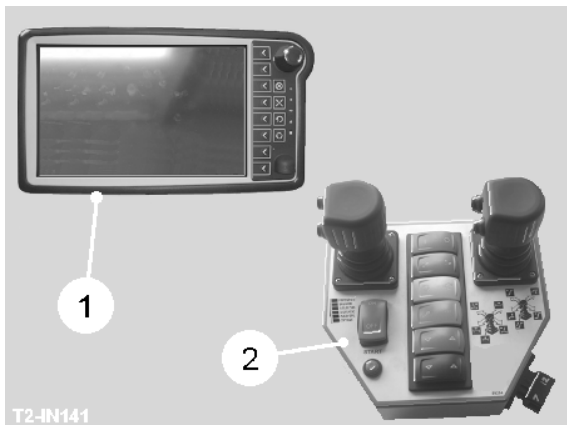
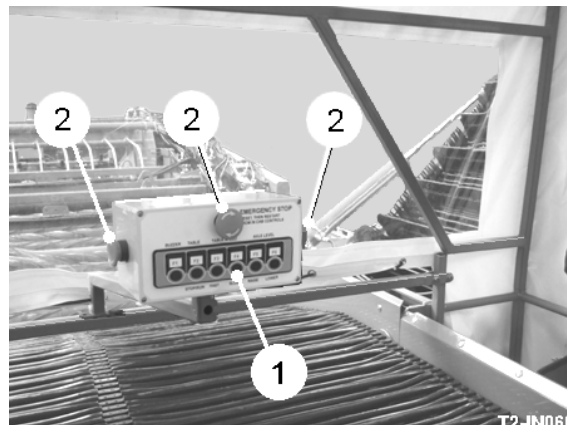

Fig 33
Fig 34
Control of all the operating functions of the T2 are through the Can-bus control system. The in-cab controls are covered by the touch-screen service terminal (Item 1, fig 33) and the slave box (Item 2, fig 33). The slave box covers all the basic switched functions used in normal operation and these are also repeated on the service terminal. The primary function of the touch screen service terminal is to allow easy access to all the variable functions such as speeds etc., and to allow all the operating functions to be monitored on the screen. Setting and monitoring can be carried out by following the instructions in the 'Control System' section, or as shown on the display screen. On manned machines, an additional control box (item 1, fig 34) is fitted above the picking table which allows the pickers to adjust the picking web speed and axle level etc.
When activated, the manual emergency stop buttons (item 2, fig 34) shut down all hydraulic drives and electrical controls by turning off the machine control module and displaying the 'Press Start' screen on the service terminal. The service terminal remains live but will not operate any function.